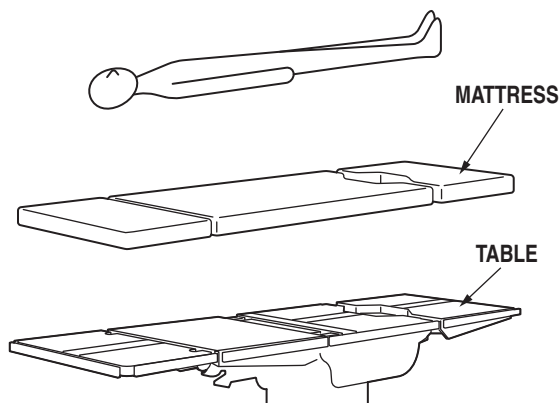

Figure 2-26. Patient Positioning
3. Set up the patient's position in accordance with the purpose of the operation. (Figure 2-26)